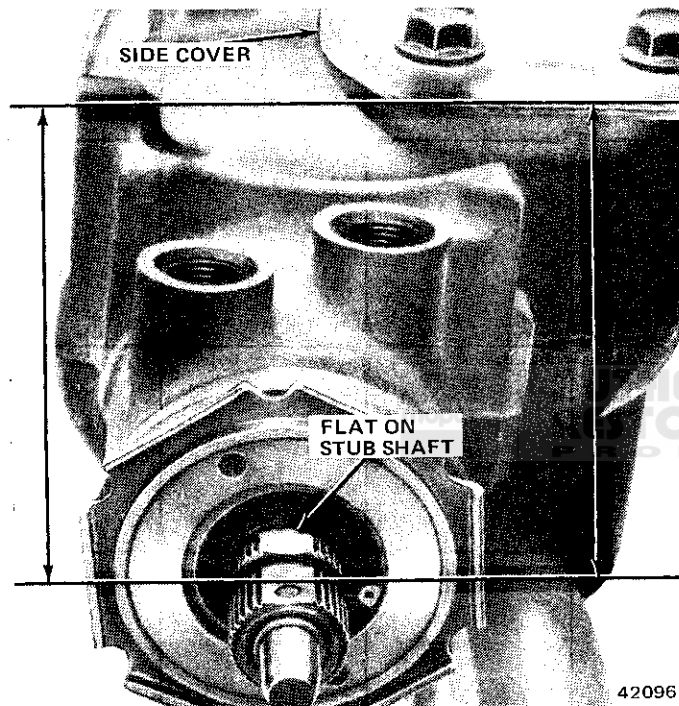

Fig. 2L-44 Stub Shaft Position With Gear Centered
(4) Install 50 inch-pound (6 N•m) torque wrench and deep socket on stub shaft and place wrench in vertical position to take reading (fig. 2L-46).
(5) Rotate torque wrench 45 degrees each side of center and record highest drag torque measured on or near center (fig. 2L-46). Record drag torque reading.
(6) Adjust drag torque by turning pitman shaft adjuster screw clockwise until desired drag torque is obtained. Adjust drag torque to following limits:
(7) Tighten pitman shaft adjuster screw locknut after adjusting overcenter drag torque. Tighten locknut to 35 foot-pounds (47 N•m) torque. Use hex wrench to prevent adjuster from turning while tightening adjuster